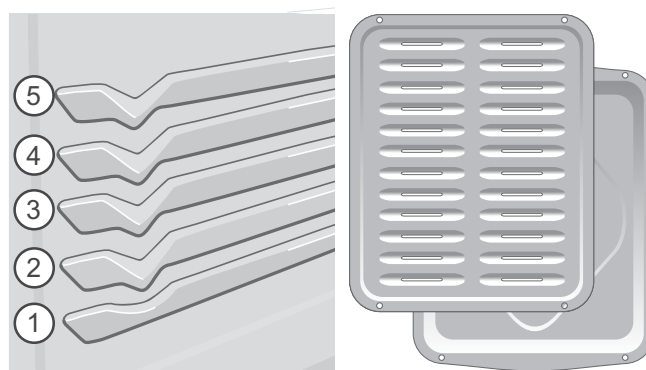

Figure 28: Broil rack positions (L) and broil pan with insert (R)
2. Position bakeware in oven to the preferred rack position (See Figure 28).